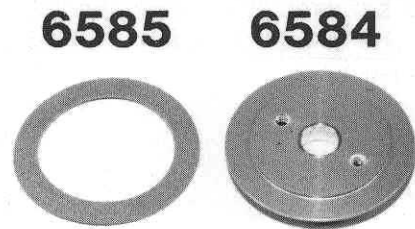

Fig. 63
□ **Figs. 63 & 64** Position the #6585 clutch disk (also in Bag E) so it's centered onto the #6584 outer hub, as shown.